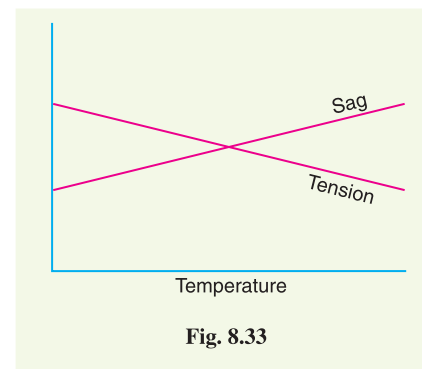

Fig. 8.33
**(iv) Stringing charts :** For use in the field work of stringing the conductors, temperature-sag and temperature-tension charts are plotted for the given conductor and loading conditions. Such curves are called stringing charts (see Fig. 8.33). These charts are very helpful while stringing overhead lines.